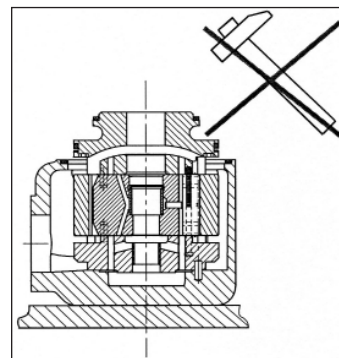

Figure 68
**! WARNING:** Never use a hammer. The cartridge is to fit into the housing without any tools (**Fig. 68**).